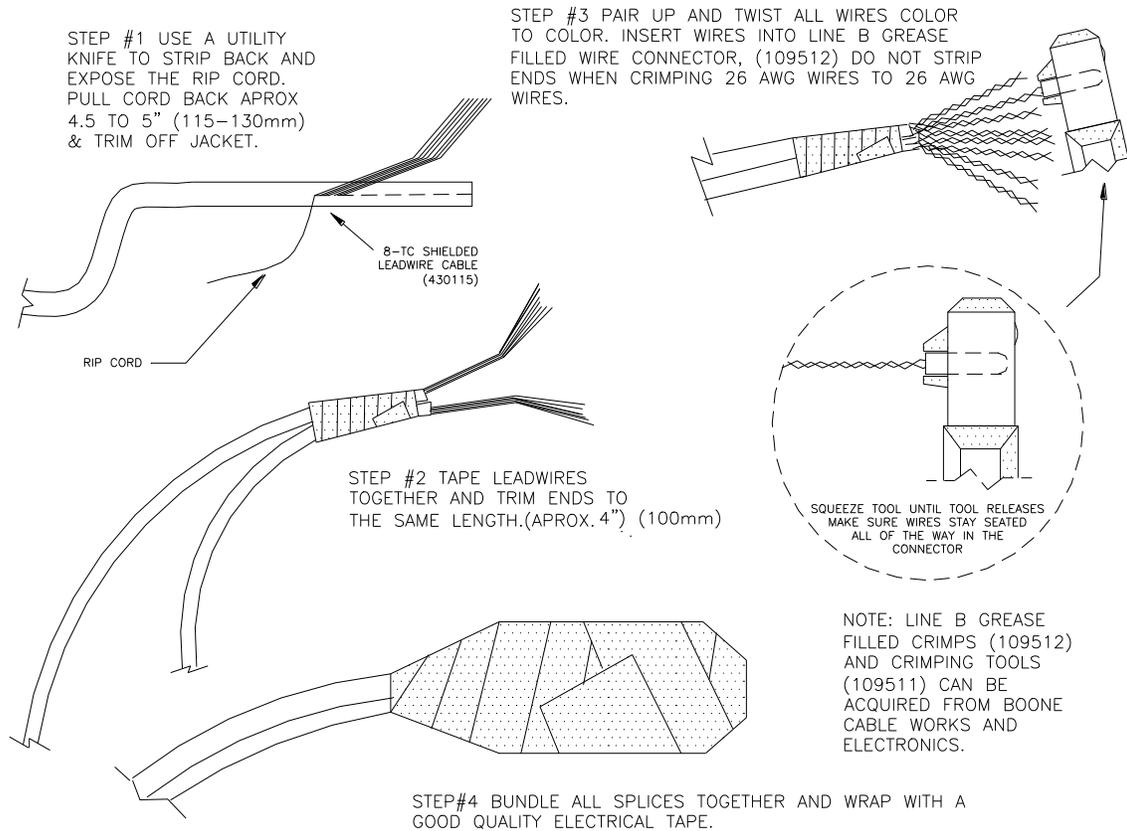

Figure 12. Cable Splicing with Crimps
4.5.2. Crimps; All wire-to-wire splices should be made with Line B grease filled wire connectors. These connectors and the proper crimping tool for installation are available from BOONE CABLE WORKS AND ELECTRONICS and can be ordered with the system. These crimps offer the highest degree of reliability, insulation, and moisture protection of any we have found. They also have the added benefit of not requiring the stripping of the insulation from the individual conductors when connecting two 26 AWG wires. The crimps are insulated outside and are grease filled inside. The grease retards corrosion and resists water, thus making a good conductive splice that is well insulated. After the splice bundle is completed, several wraps of good quality electrical tape will provide abrasion resistance, and make for a neat looking splice. Please refer to the detailed splicing section, and figure 12 for specific steps related to making wire connections.